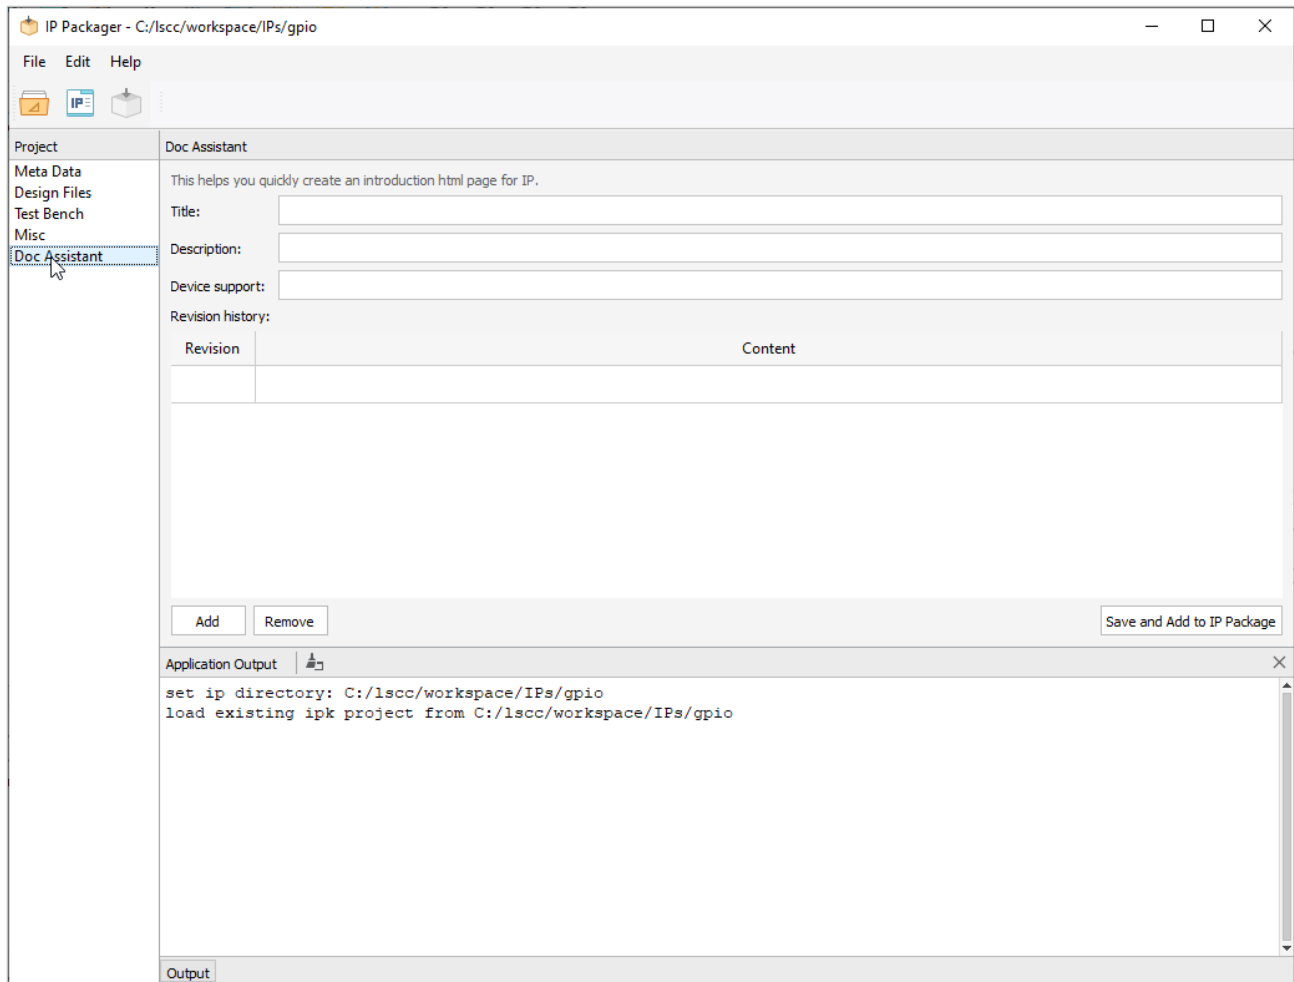

Figure 3.31. IP Packager with Doc Assistant Details
- From the IP Packager Project area, click **Doc Assistant**. The Doc Assistant information is shown in detail (Figure 3.31).